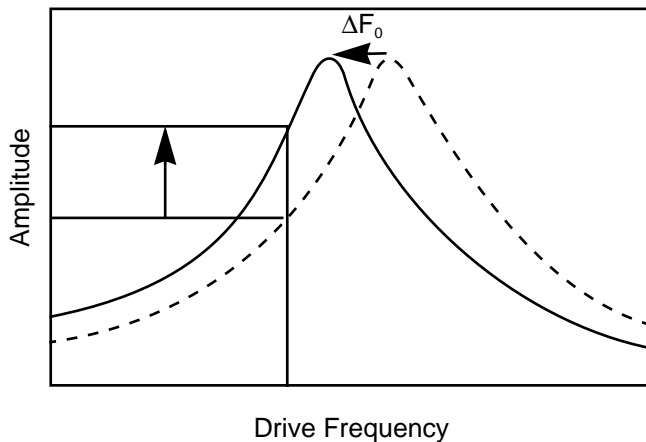

Figure 13.6. Shift in amplitude at fixed drive frequency.
maximum sensitivity, set the **Drive frequency** to the steepest part of the resonance curve. As the tip oscillates above the sample, a gradient in the magnetic force will shift the resonance frequency f_0 ; (see Figure 13.6). Tracking the variations in oscillation amplitude while in LiftMode yields an image of the magnetic force gradients.
- When using amplitude detection, variations in **Drive Amplitude** affect sensitivity and image contrast as well as signal-to-noise ratio. This is because changes in the oscillation amplitude change the slope of the amplitude vs. frequency curve, and hence the effective sensitivity; see Figure 13.6. With phase detection and frequency modulation, changes in amplitude produce no change in contrast, and results are thus more reproducible than with amplitude detection.